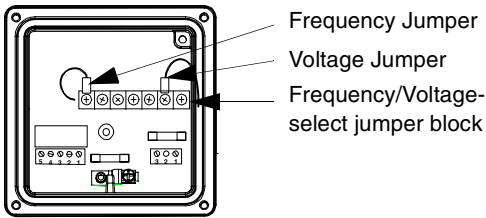

Figure 4. Logic Board
4. Locate the voltage/frequency jumpers on the logic board (see Figure 4).